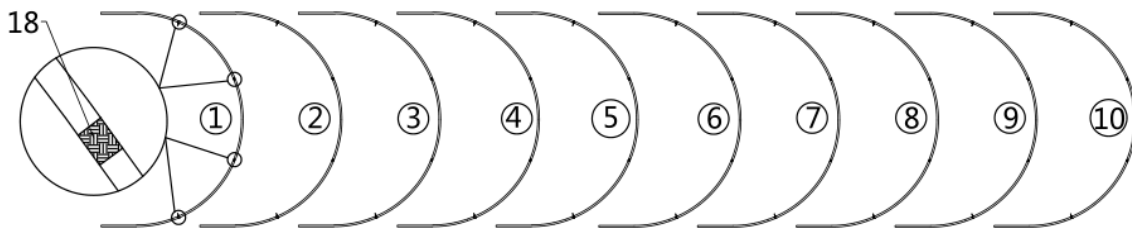

Figure 3
- Lay down all (10) trusses on the ground when the assembly is all completed and before moving to next step, and then wrap (#18) around the sharp points of the joint to avoid friction between the fabric and the interface, resulting in fabric damage.(refer to figure 3)